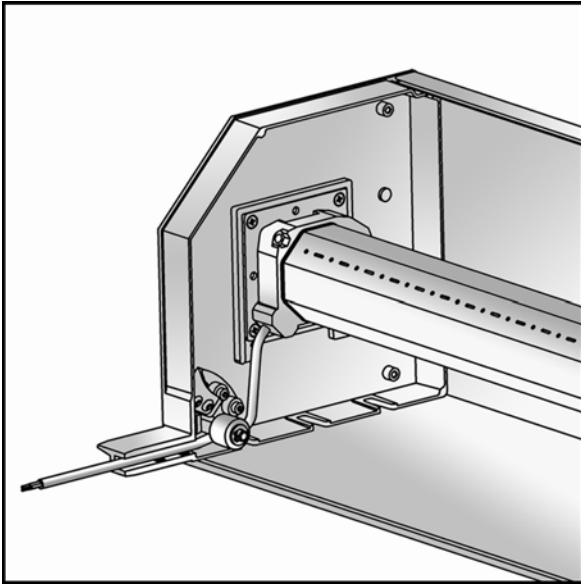
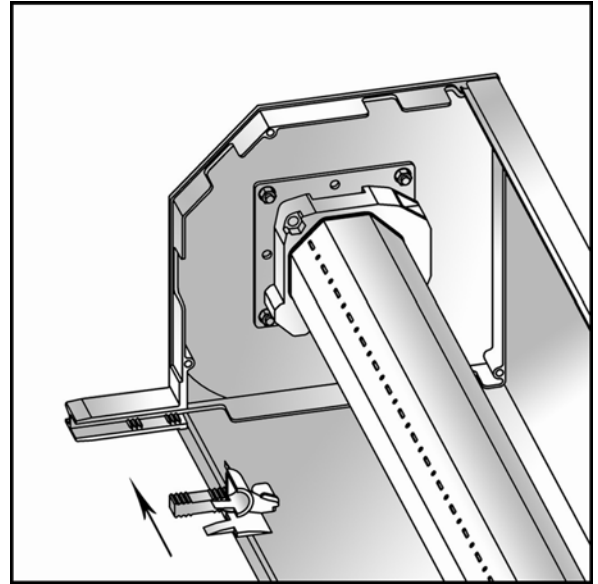

Fig. 2.13
Fig. 2.14
9. If necessary to draw the electric motor cable in the guide rail cavity, insert the cable in the end cap leg (*fig. 2.13*). If there's no a raised beaded edge on the guide rails and guide rollers in the shutter box, install entry guides in the end caps (*fig. 2.14, 2.15*).